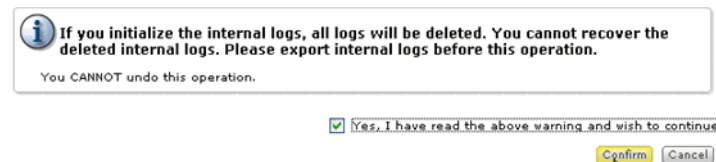

Figure 5-23: Initialize Internal Log message window
4. Select the **Audit Logging** icon in the Security tree view. The Audit Logging dialog box is displayed (see Figure 5-23).